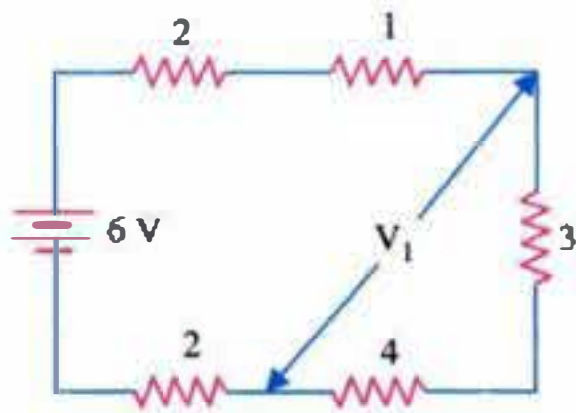

Fig. 2.35
1. In the circuit of Fig. 2.35, compute